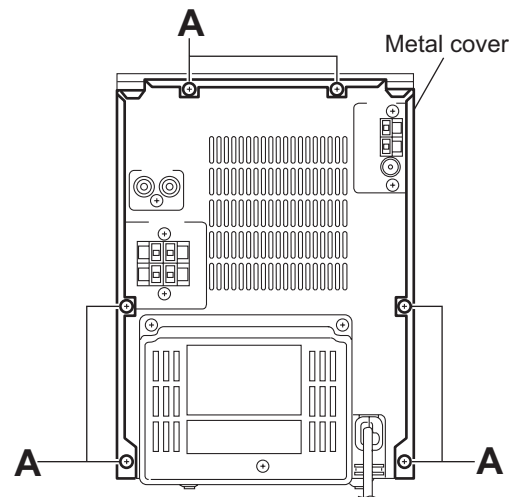

Fig.1
(See Figs.1 to 3)
- (1) From the back side of the main body, remove the six screws **A** attaching the metal cover. (See Fig.1.)